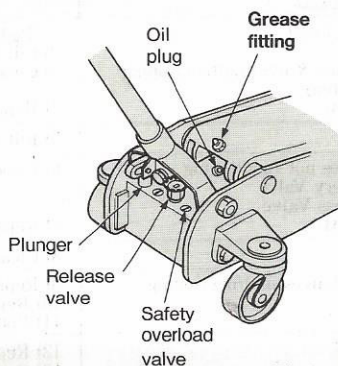

Fig 3
- 2) Add grease to Upper Arm Grease Fitting every 3 month (Fig 3)